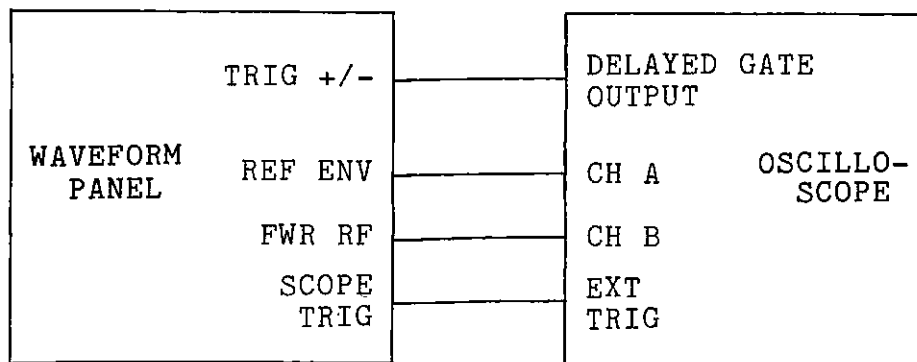

Figure 3.6. Equipment Setup for Pulse Shape Monitoring
3.3.2.1 Pulse shape monitoring. Refer to Figure 3.6 and the following steps to monitor the pulse shape: